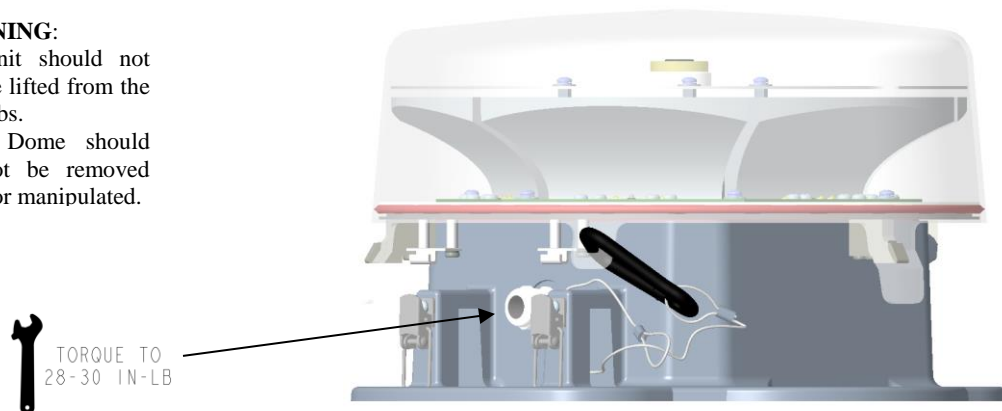

Figure 1
- Figure 1: L-864 Flashing Red Beacon Assembly
The L-864 Flashing Red Beacon as shown in Figure 1, (hereafter referred to as the Beacon) operates from 120 / 240VAC 50/60 Hz or 24-48Vdc depending on the model number. The beacon consists of High Performance LED's that provide the light output equivalent to an incandescent fixture while consuming a fraction of the electrical power.